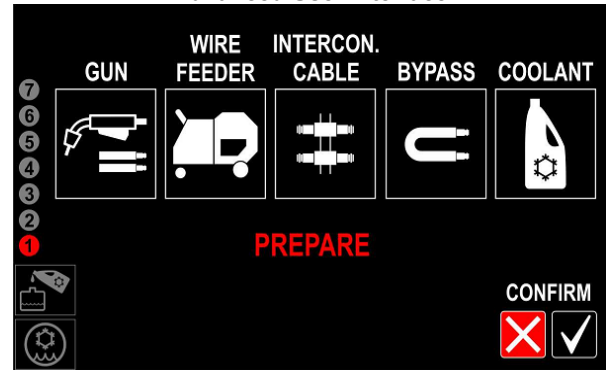
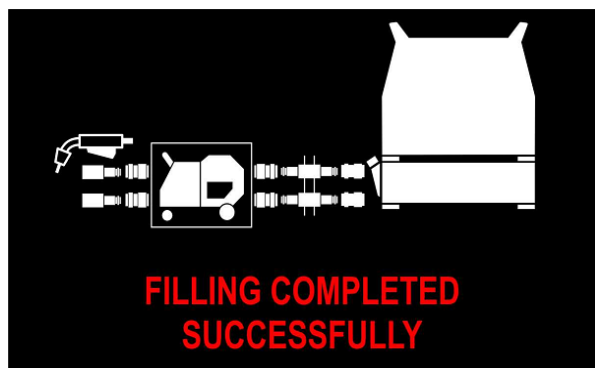
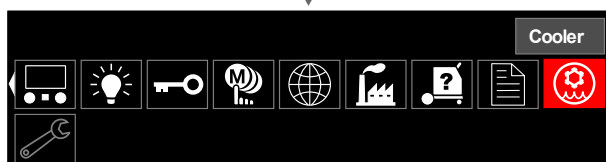

Figure 14
Figure 21
Figure 30
- When the **COOL ARC® 60** was connected for a first time welding source will automatically starts the filling procedure (Figure 14 or 22). Remove the reservoir cap to prevent generating a partial vacuum.
- If the filling process is successful (Figure 21 or 29), the cooler switches to AUTO mode.
First follow as shown Figure 30 or 31 and then repeat steps shown on Figure 14 or 22 to Figure 21 or 29.